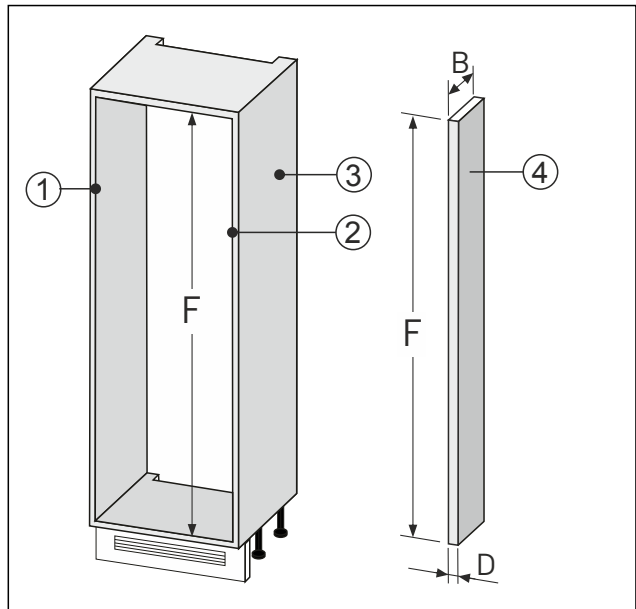

Fig. 84
- Fabricate the filler panel Fig. 84 (4) based on the dimensions specified above.